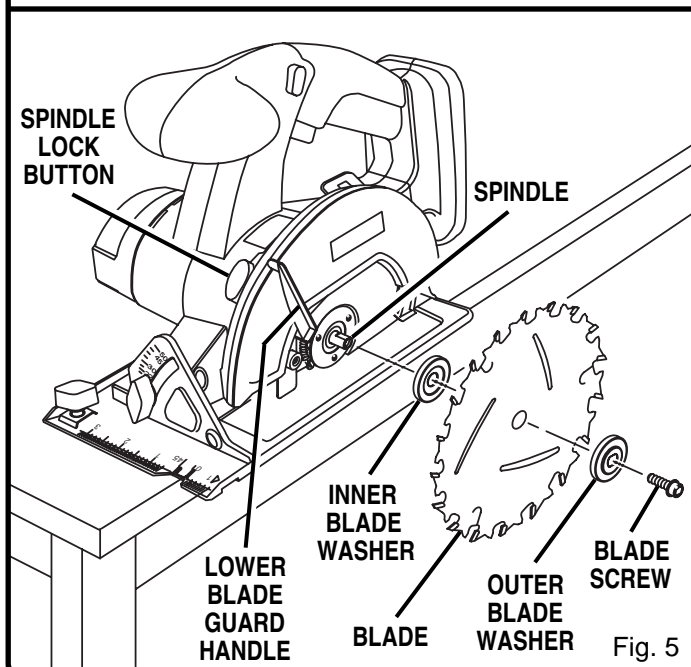

Fig. 5
- Depress spindle lock button and remove blade screw and outer blade washer. *See Figure 5.*
**NOTE:** The saw teeth point upward at the front of saw as shown in figure 5.
- Remove outer blade washer. *See Figure 5.*